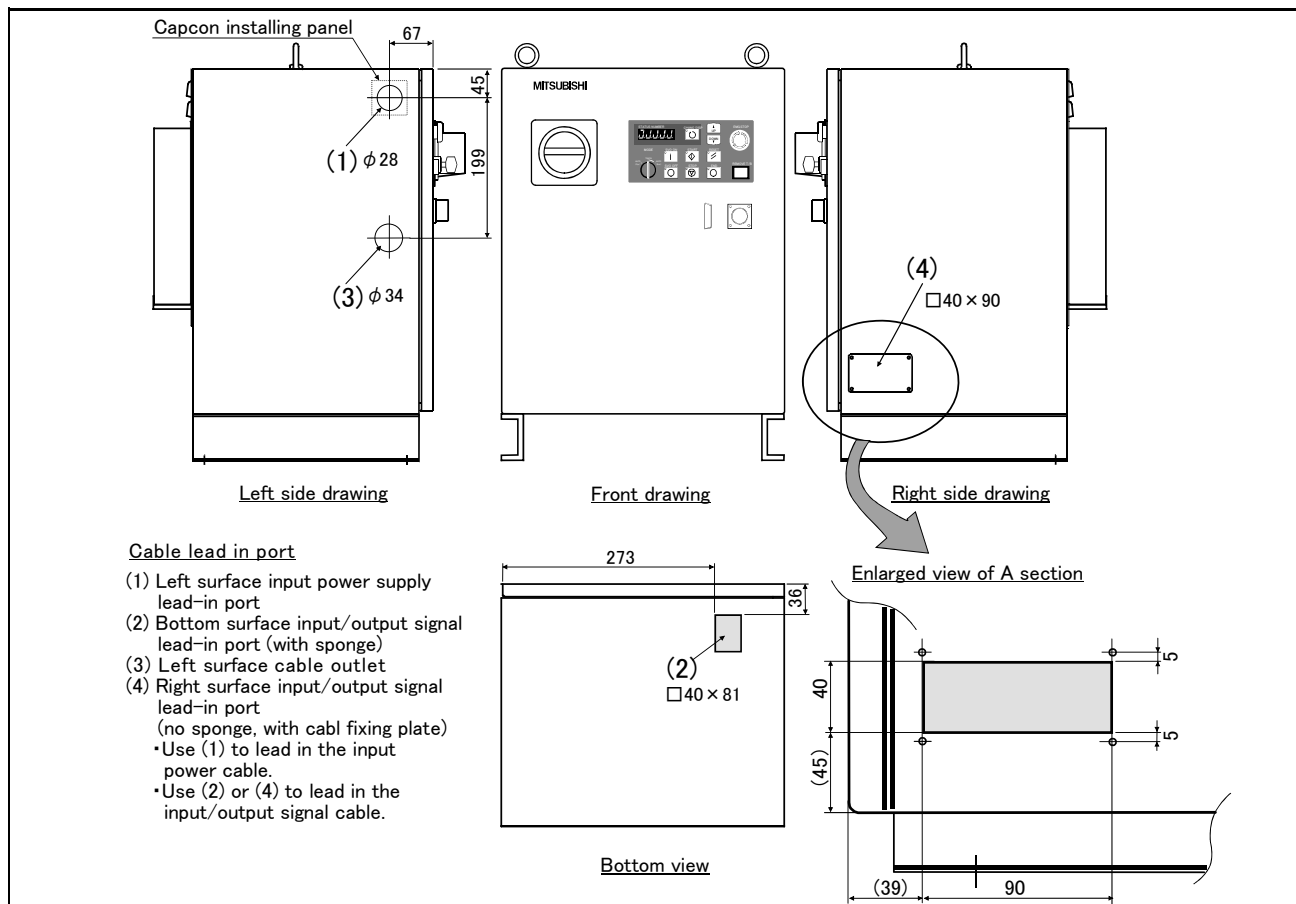

Fig.3-9 : Cable lead-in ports and dimensions (CR3-535M controller)
The controller has the openings (1) to (4) as shown in Fig. 3-9.